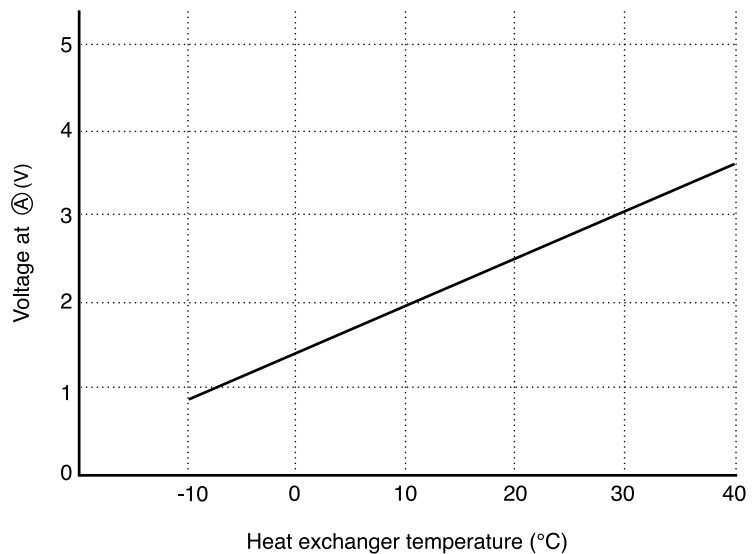

Fig. 4-2
- The voltage at (A) depends on the room temperature as shown in Fig. 4-2.
- (1) Preheating.
- (2) Low-temperature defrosting during cooling and dehumidifying operation.
- (3) Detection of the reversing valve non-operation or heat exchanger temperature thermistor open.
The voltage at (A) depends on the heat exchanger temperature as shown in Fig. 4-2.